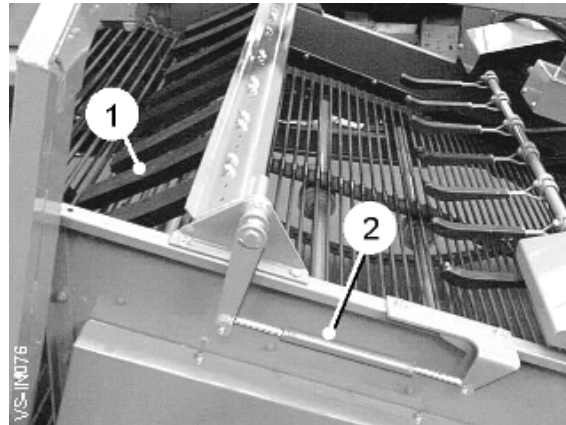

Fig 12
The clod breaking fingers consist of one or two rows of trailing rubber blocks (item 1, fig. 12). These operate by rolling the clods and potatoes which, in some soil conditions, has the effect of splitting the clods and allowing the smaller pieces to fall through the web.
To vary their effectiveness the clod fingers can be raised above or lowered down onto the web by adjusting the turnbuckle (item 2, fig. 12). Care should be taken not to set the fingers to operate too rigidly onto the web or bruising and skin scuffing may occur.